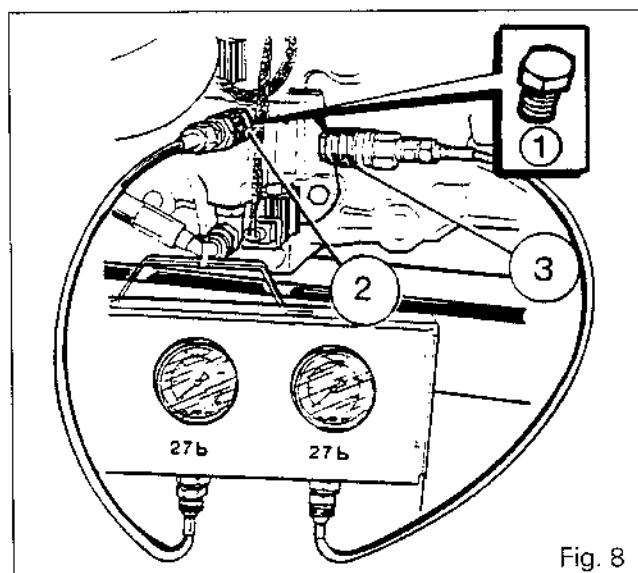

Fig. 8
**Hydraulics - Dynashift control****B. Checking the pressure of Dynashift pistons (Fig. 8)**
3. Screw in two male connectors **(2)** and **(3)**, ref. 3384387M1, and connect them to the couplers, ref. 3582045M1, fitted onto pressure gauges with a capacity of about 30 bar.
Unlike the classic unit, the LS steering unit is equipped with a fifth LS port (Fig. 8).
#### Divider valve (Fig. 1 and Fig. 8)